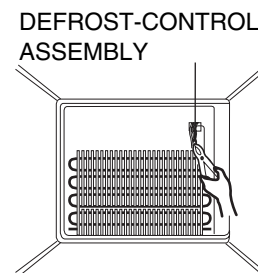

Figure 2
▶ Left Door -FIG. 2
2. Separate the connector with the Defrost Control assembly and replace the Defrost Control assembly after cutting the Tie Wrap. (Figure 2)